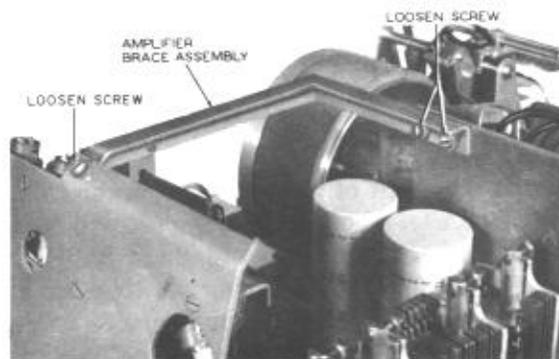
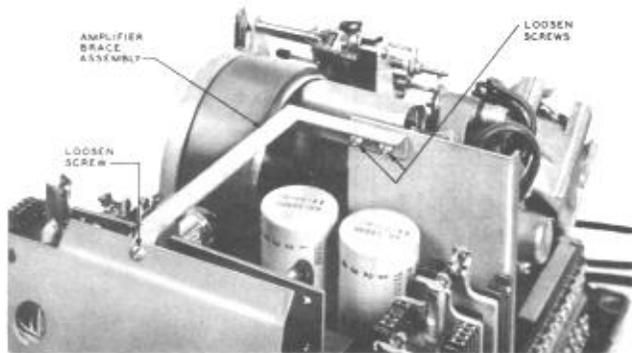

Fig. 3 - Amplifier Brace Assembly - Early Type Sets
Fig. 4 – Amplifier Brace Assembly – Standard Sets
2. For early type sets loosen the screws shown in Fig. 3 and remove the amplifier brace assembly. For standard sets loosen the screws shown in Fig. 4 and remove the amplifier brace assembly.